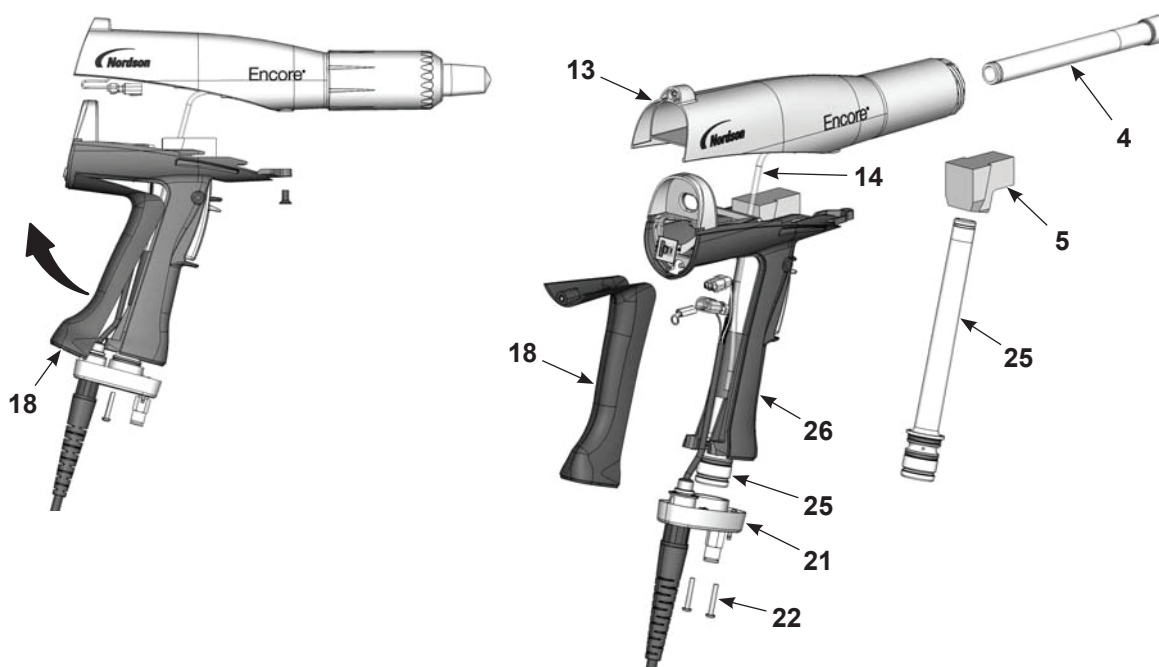

Figure 6-5 Removing the Gun Body from the Handle
2. See Figure 6-5. Remove the elbow (5) from the inlet tube (25).
3. Remove the two M3 x 20 screws (22) from the handle base (21).
4. Pull the base away from the handle, then swing the bottom of the ground pad (18) up and away from the handle, then remove it. Leave the ground wire connected to the ground pad.
5. Push the inlet tube (25) up and out of the base, then move the base out of the way and pull the inlet tube out of the handle.
6. Push the outlet tube (4) out of the front of the gun body (13).
1. See Figure 6-5. Install the outlet tube (4) into the gun body (13), with the end of the tube flush with the end of the gun body.
2. Install the inlet tube (25) into the handle (26), then install the end of the tube into the handle base (21).
3. Push the handle base close to the handle, then hook the top end of the ground pad (18) into the body and rotate it onto the handle. Make sure the cable wires are not pinched or trapped during re-assembly.
4. Install the handle base onto the handle and ground pad and secure it with the two M3 x 20 screws (22).
5. Install the elbow (5) onto the inlet tube, with the end oriented toward the front of the gun as shown.